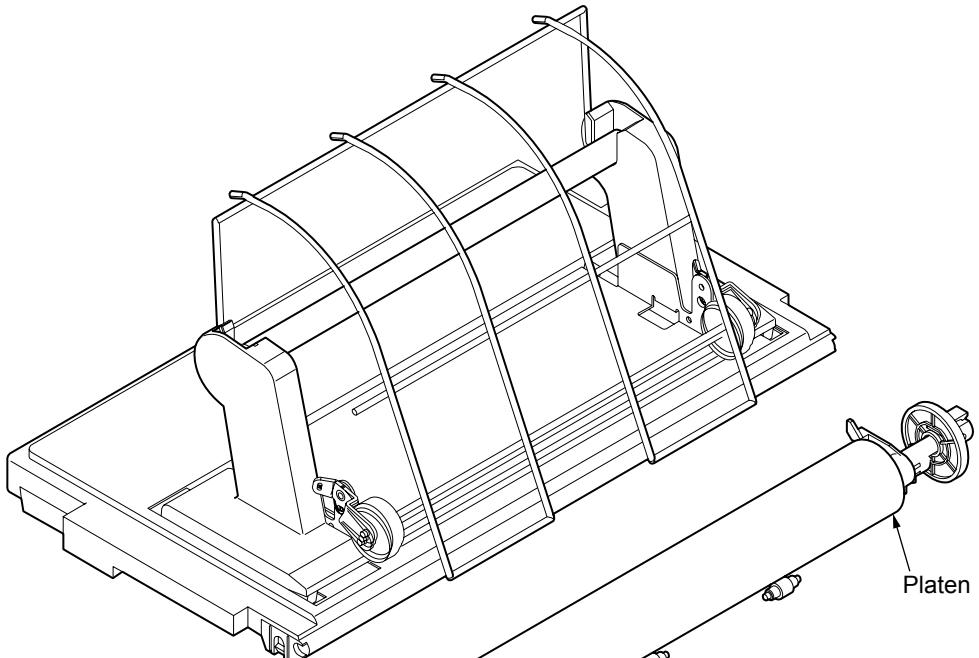

**Figure 2-14**
(8) Cut-sheet feeder unit operation (option)(See Figure 2-14.)